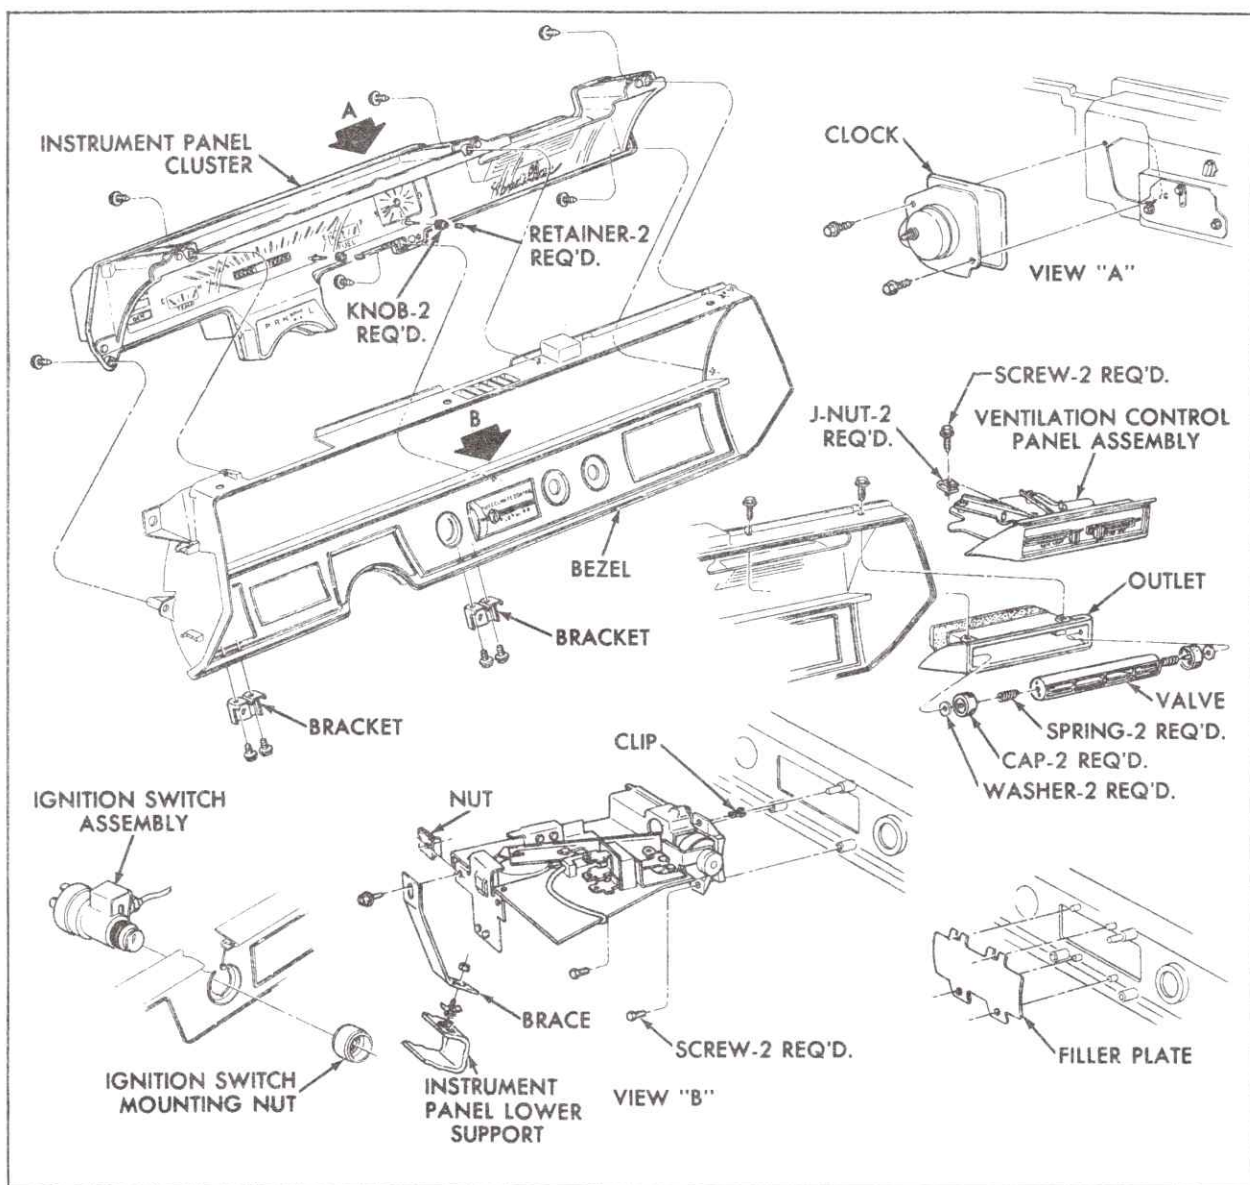

Fig. 12-39 Instrument Panel - Perspective 2
6. Remove three upper screws that secure instrument panel cluster to bezel, Fig. 12-39.
9. Remove two screws that secure center air outlet and remove outlet, Fig. 12-39.
11. Using a flexible hex driver, remove lower left instrument panel cluster to bezel screw, Fig. 12-39.
4. Install three upper screws that secure instrument panel cluster to bezel, Fig. 12-39.
9. On cars equipped with Automatic Climate Control, install center air outlet boot at end toward cowl and connect other end at air outlet. Secure center air outlet with two screws, Fig. 12-39.
5. Remove two screws securing clock assembly to back of cluster case, Fig. 12-39. Position printed circuit back out of way. Remove clock assembly by sliding to right side and removing left side first.
1. Position printed circuit. Position clock assembly on back of cluster case by sliding in from right side and secure with two screws, Fig. 12-39.